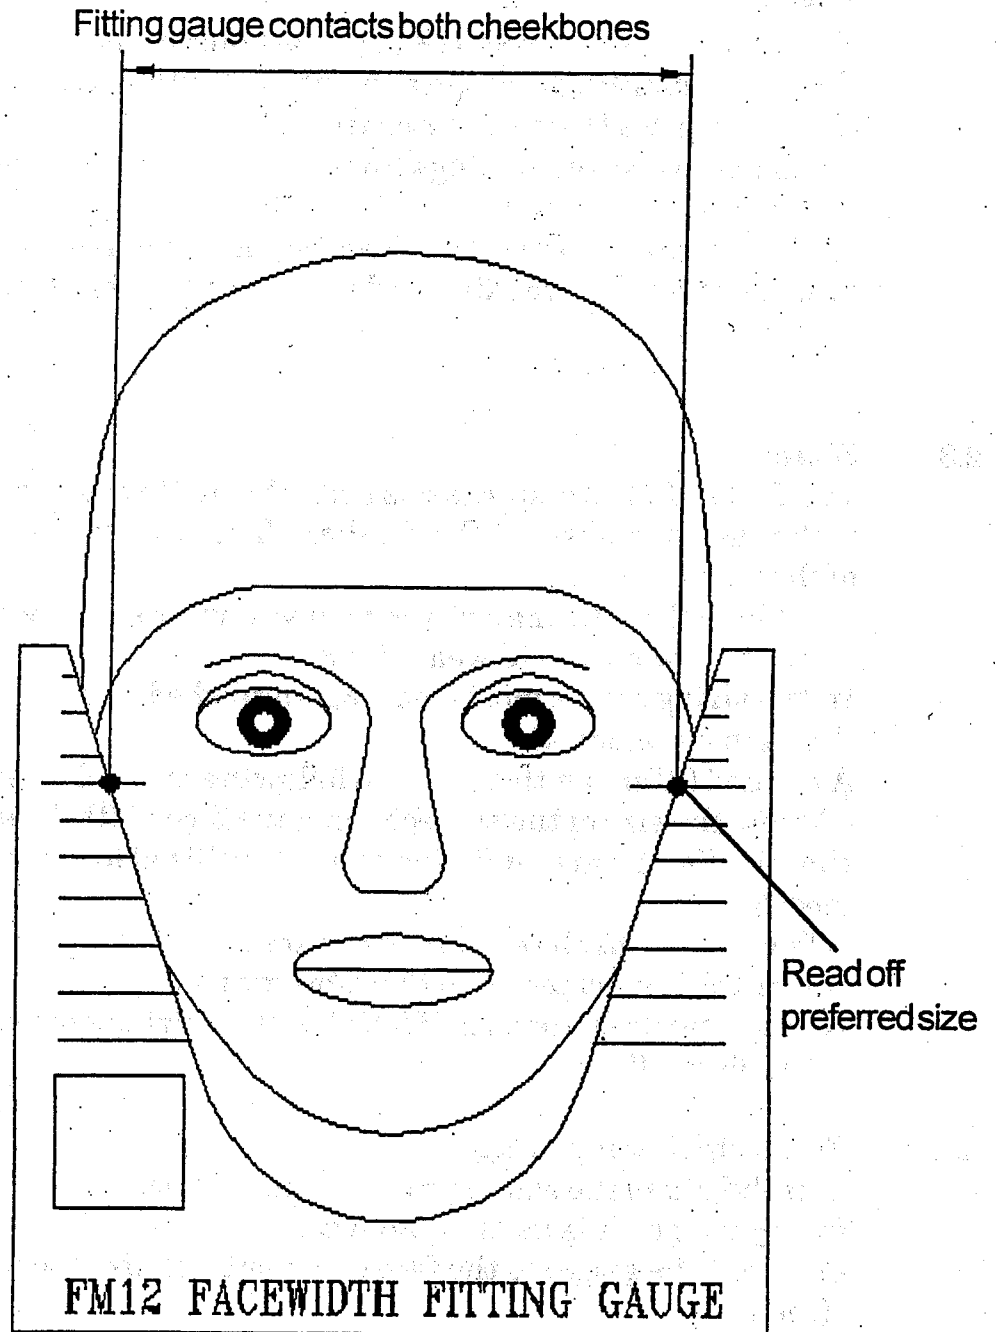

Fig 3
- Present the gauge to the face of the subject just above the ears (see fig 3)